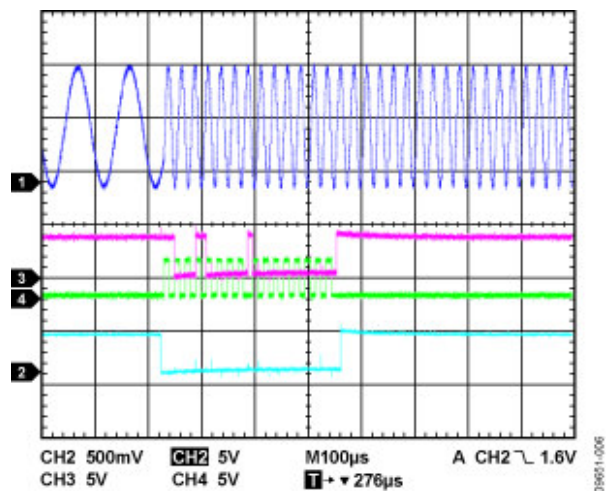

Figure 6. Changing FREQ1 Output from 10 kHz to 40 kHz
- 0x9000—Latch to output by synchronizing data. In this case, the SELSRC bit is again set to 1 using Command Bits [1:0] for C15 and C14. The part simply needs to see a falling FSYNC edge to latch data (see Figure 6).